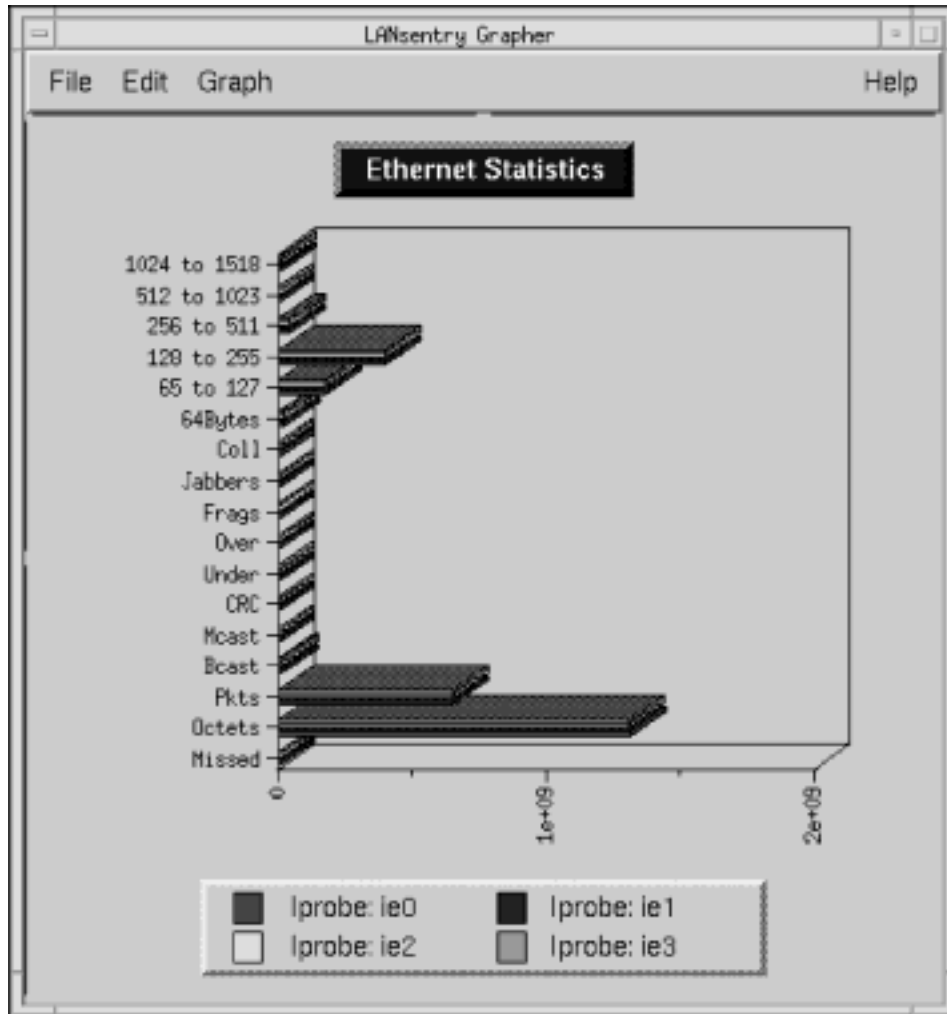

Figure 39. Example of a Comparative Statistics Graph
5. Click **OK** to display the Statistics View (Figure 39 on page 81).